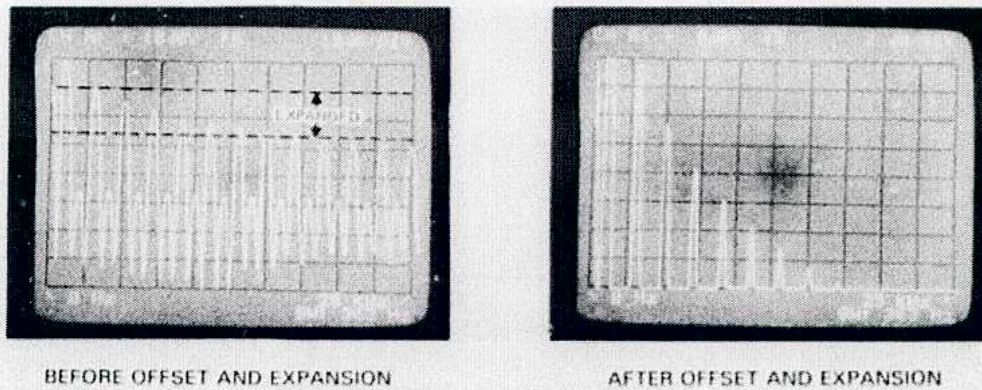

Figure 3-5. Expanding a Portion of the Display.
- f. Placing the 2 dB/DIV button to the ON position will expand the spectra within ± 16 dB from the reference setting to a full scale display (see Figure 3-5).